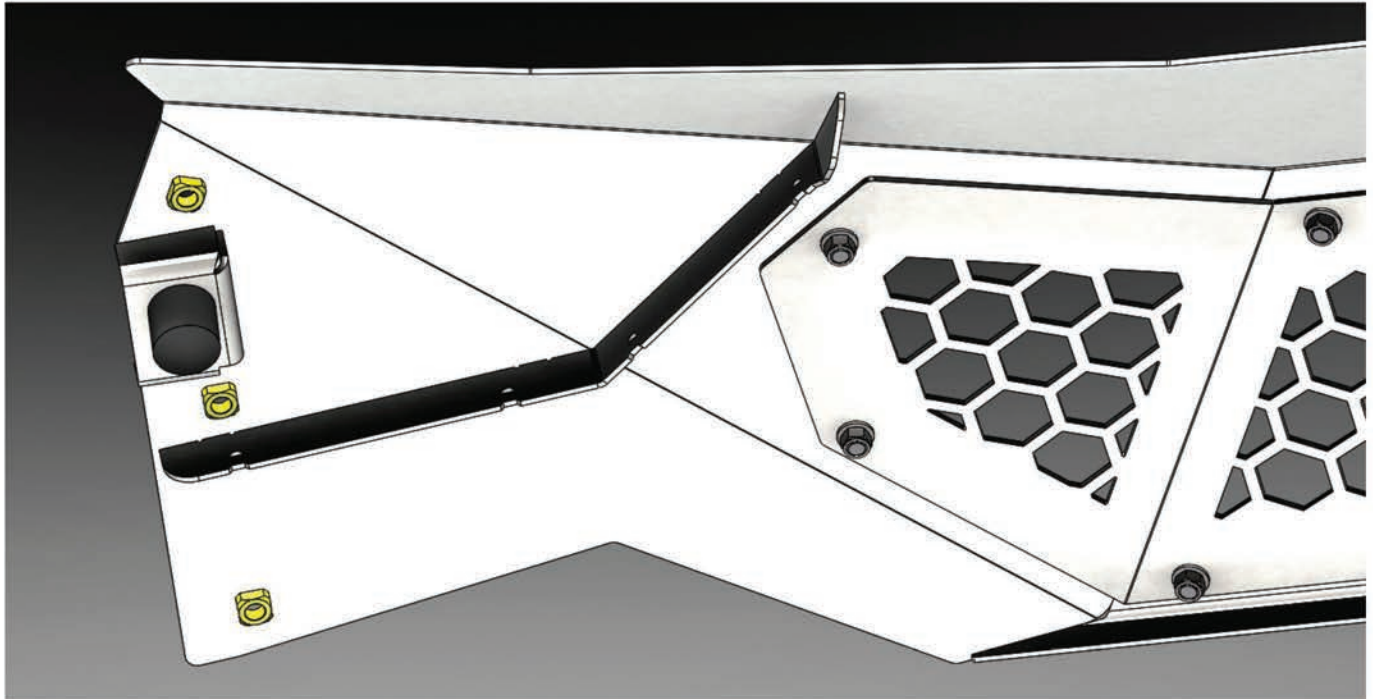

Fig 11
- a. Install and hand tighten the rubber bumpers and $\frac{1}{2}$ " flat washers to the visor as shown in **Fig 11**.